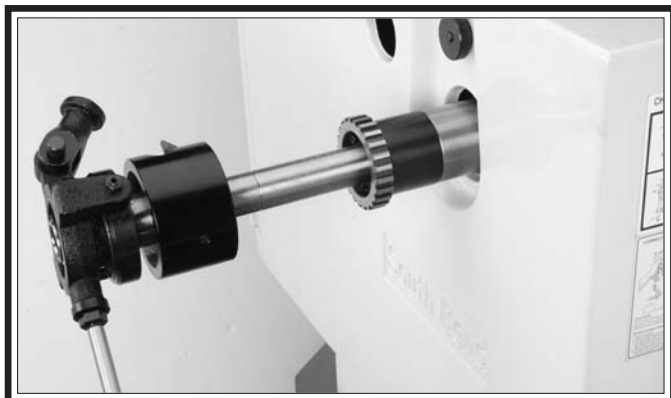

Figure 6. Collet attachment installation.
14. Carefully insert the collet attachment draw tube into the lathe spindle, as shown in **Figure 6**.